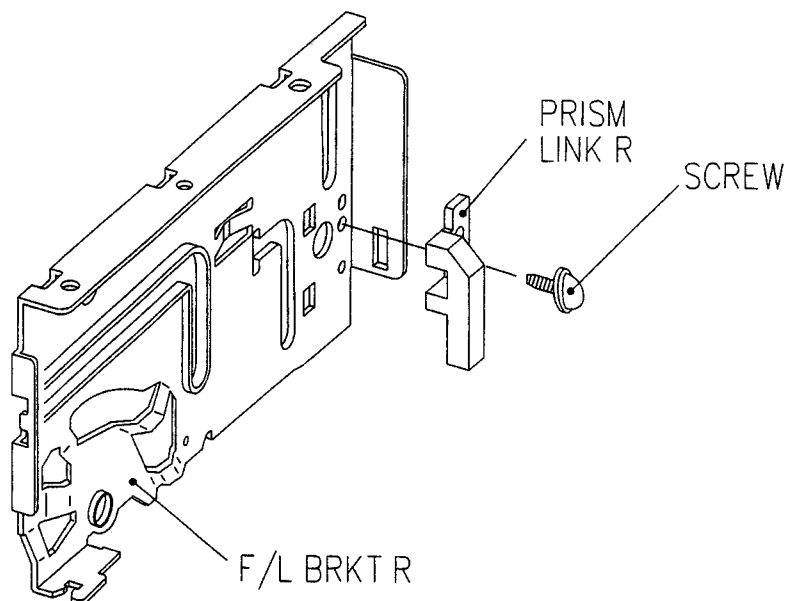

Fig.3-3 DISASSEMBLY OF THE F/L BRKT R
- c. Remove one screw holding the prism link R and remove the prism link R from the F/L bracket R. (Fig. 3-3)